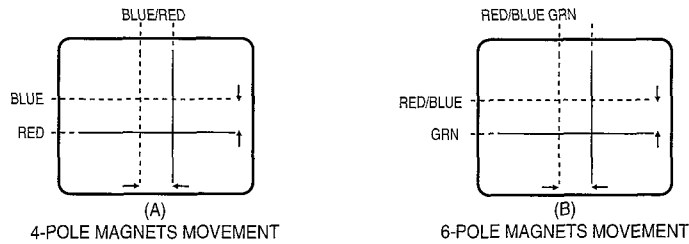

FIG. 1 CENTRE CONVERGENCE BY CONVERGENCE MAGNETS
Rotate the pair of rings (maintaining spacing between tabs) to converge the horizontal red and blue lines. (Refer to fig. 1 (A))
- b. After completing red and blue centre convergence, locate the pair of 6 pole magnet rings. Rotate individual rings (change spacing between tabs) to converge the vertical red and blue (Magenta) and green lines. Rotate the pair of rings (maintaining spacing between tabs) to converge the horizontal red and blue (Magenta) and green lines. (Refer to Fig. 1(B))